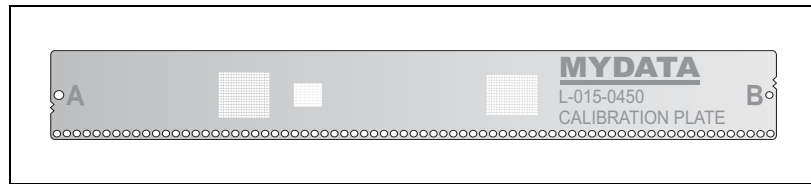

Figure 4-1. Calibration plate.
- Calibration Plate, see Figure 4-1.